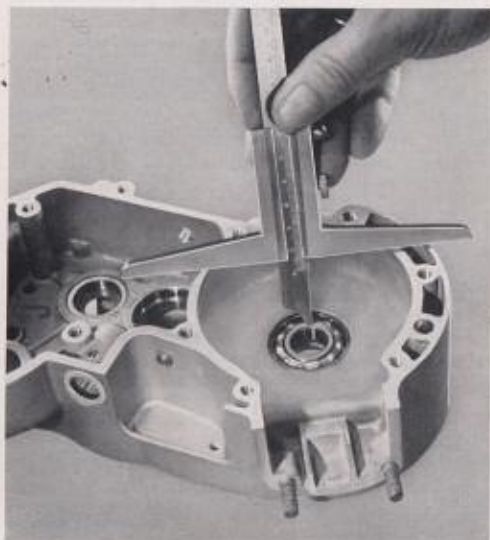

Fig. 37
4.32 Measuring the two housing sections for the installation of the crankshaft. (Fig. 37)